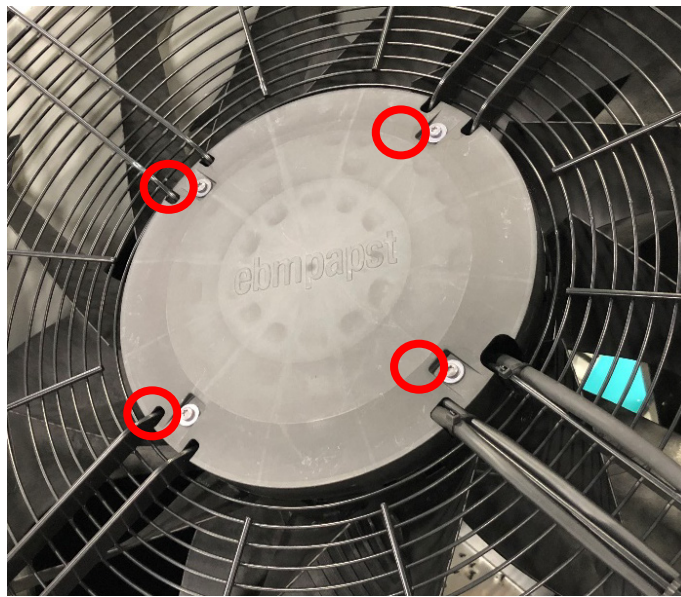
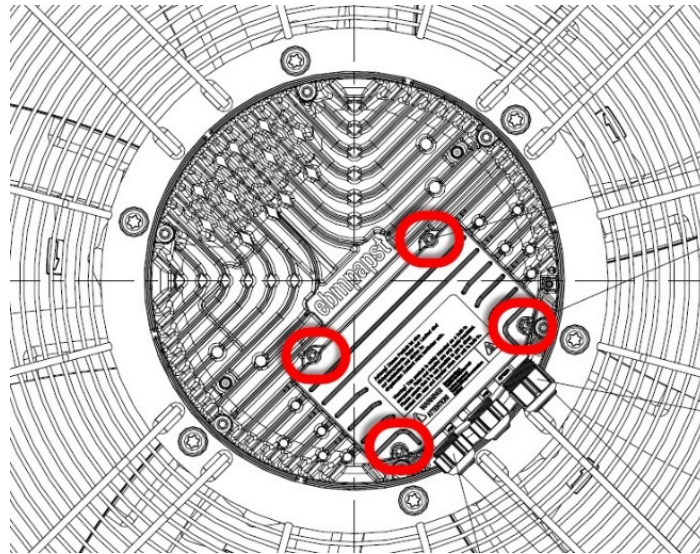

Figure 20. Fan Cover Plate
Figure 21. Terminal Box Cover
2. Remove the fan cover plate by removing the four fasteners as shown in **Figure 20**.
- Remove the terminal box cover by removing the four fasteners as shown in **Figure 21**.
11. Remove the fan cover plate and terminal box cover shown in **Figure 20** and **Figure 21** respectively. Remove caps from the cable glands.
15. Inspect the terminal box cover gasket and reinstall the terminal box cover with a tightening torque of 1.5 ± 0.2 Nm as shown in **Figure 21**. Proper installation of the terminal box cover is critical to maintain the weatherproof rating of the unit. If the above procedure is not followed, damage due to water ingress will occur.
16. Reinstall the fan cover plate with a tightening torque of 3 ± 0.3 Nm as shown in **Figure 20**.